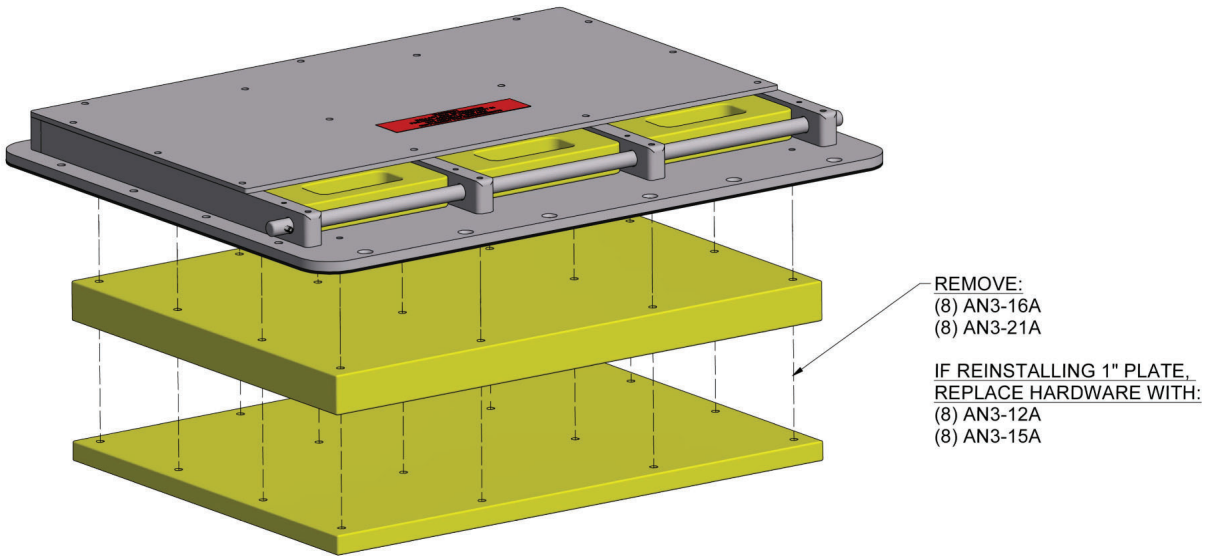

Figure 2
2. Remove the fixed ballast plates from bottom of assembly by removing (16) AN3 bolts. Reference Figure 2.
- a. Re-fasten the thicker (1") ballast plates using (8) AN3-12A and (8) AN3-15A bolts. Reference Figure 2. The longer bolts are used closest to the center, screwing into the two ribs which form the bay for the center removable ballast plate.
4. Reinstall both forward ballast assemblies using (14) pan head screws and (6) countersunk screws per float. Reinstall retaining pin, if removed.